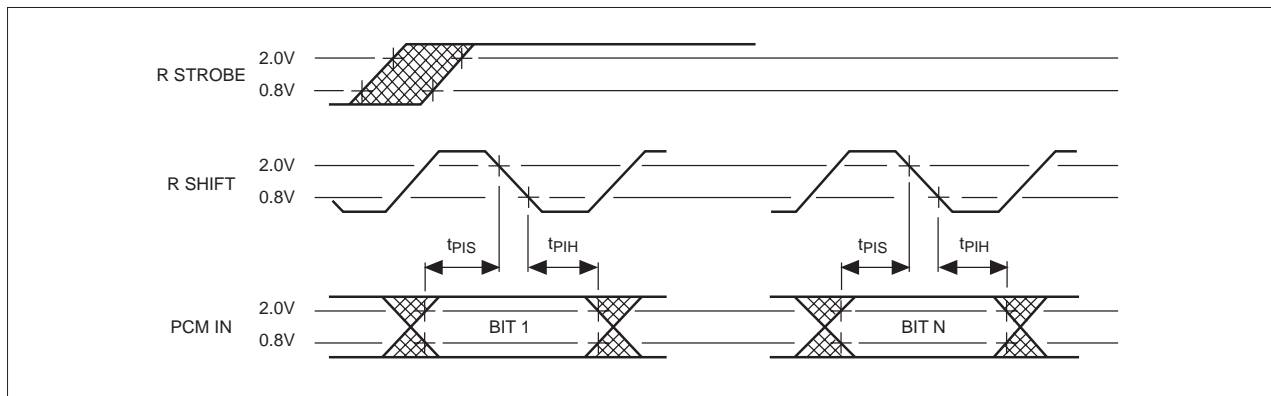

Figure 10: Timing - receive data
**DIGITAL SWITCHING CHARACTERISTICS - RECEIVE DATA (SEE FIG.10)**